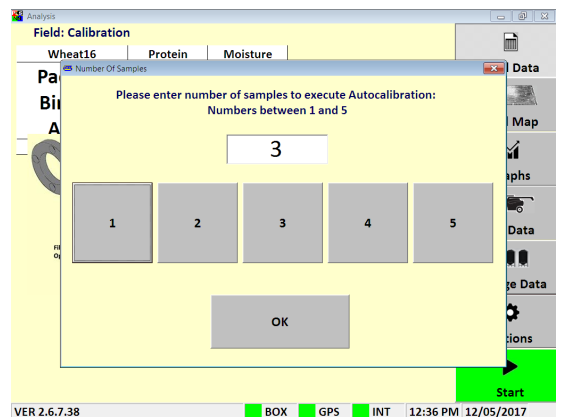

Figure 4.4. Number of samples for Auto-Calibration.
4. Enter the number of samples to check (1-5) figure 4.4